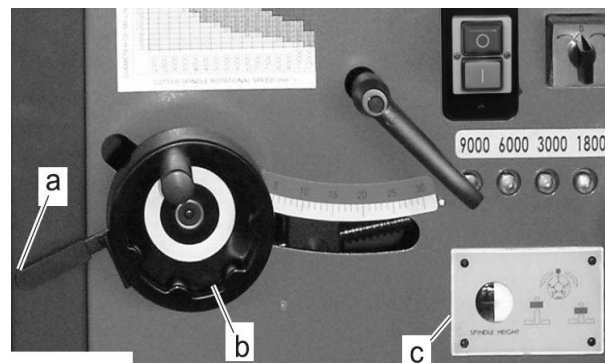

Fig. 28: Adjusting the spindle height
Step 4: Use the handwheel (b) (Fig. 28) to adjust the vertical position of the cutter.
Make sure that the cutter does not come into contact with the cover or fence. The scale (c) (Fig. 28) to the right of the handwheel indicates the position of the cutter.